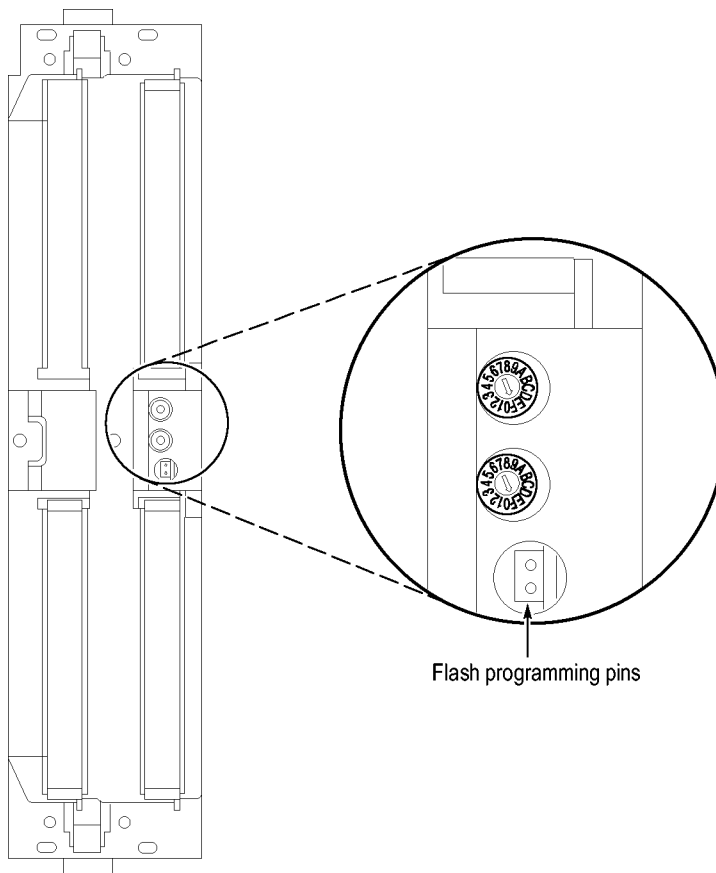

Figure 60: Flash programming pins
5. Locate the flash programming pins on the rear of the module. (See Figure 60.)